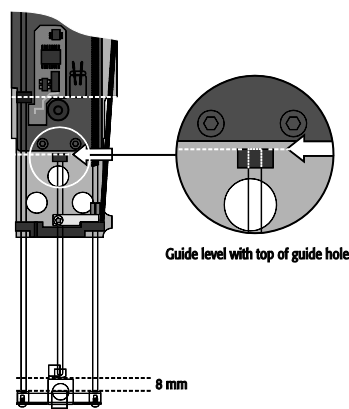

Figure 7. Adjusting the Upper Needle Guide.
10. Adjusting the Upper Needle Guide is illustrated in Figure 7. This position was found to be ideal for changing the syringe needle without bending it at the Upper Needle Guide.